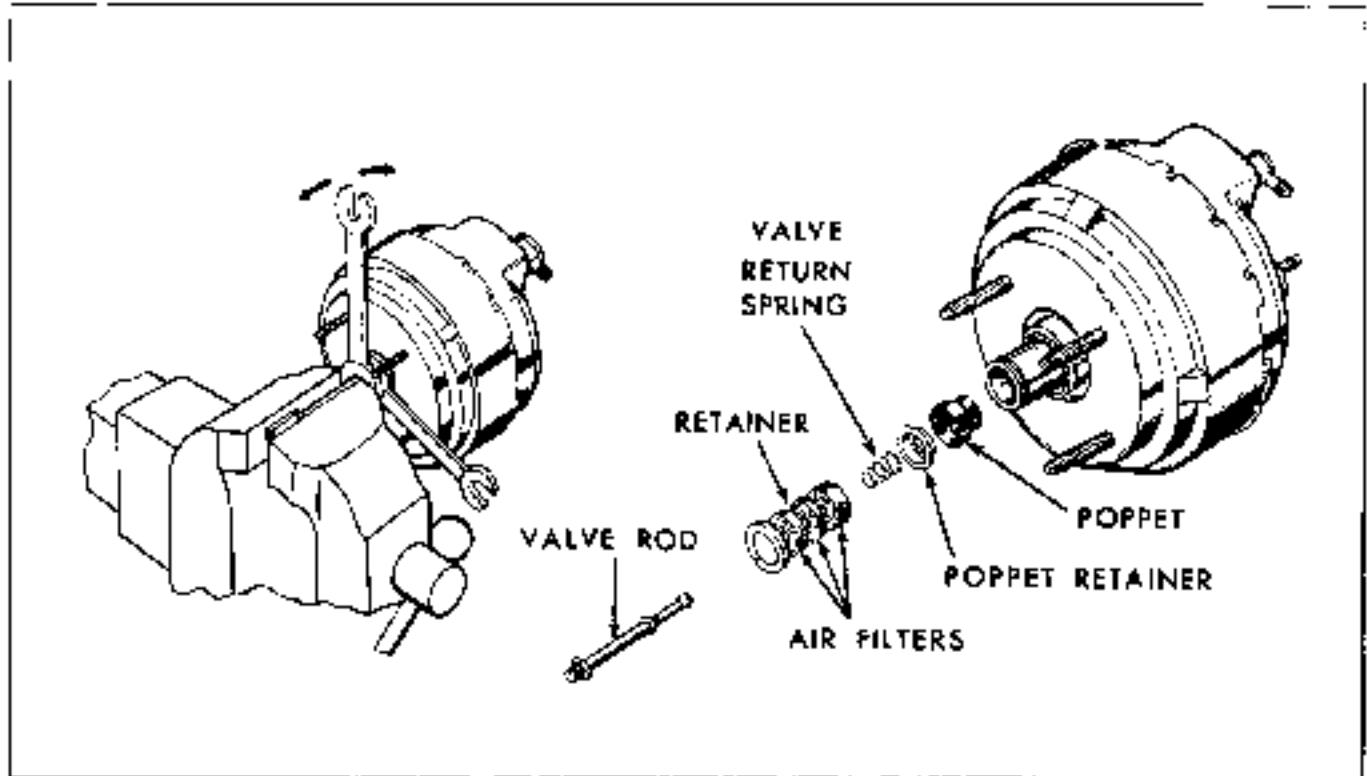

Fig. 5C-2 Valve Rod, Retainers, Filters and Poppet
1. Assemble special tool combination as shown in Fig. 5C-3.
2. Place assembly in arbor press (Fig. 5C-3A) with rear shell and spanner wrenches up. Secure tool J-8433 to press to prevent tilting of front shell.